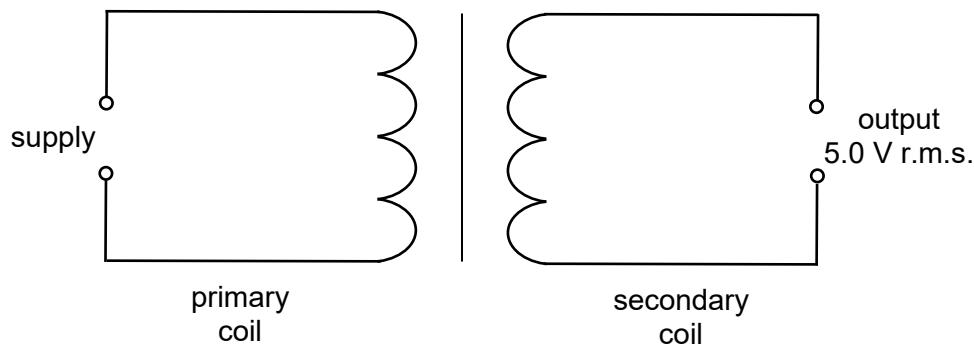
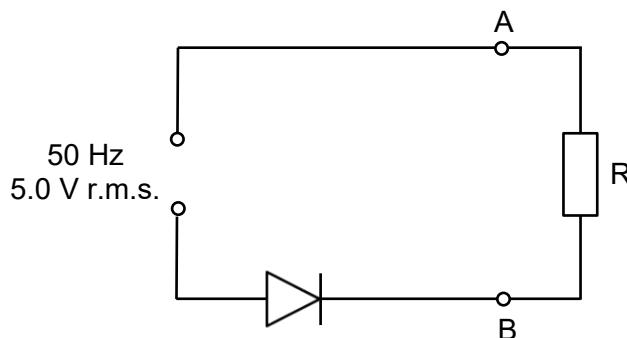

Fig. 7.1
Fig. 7.2
- 7 A step-down transformer is used to change a supply voltage to 5.0 V r.m.s. for use in a home appliance, as shown in Fig. 7.1. The primary and secondary coils are wound around the same iron core. Assume that the transformer is ideal.
- (c) The output in Fig. 7.1 has a frequency of 50 Hz and is connected to an ideal diode and a resistor R as shown in Fig. 7.2.